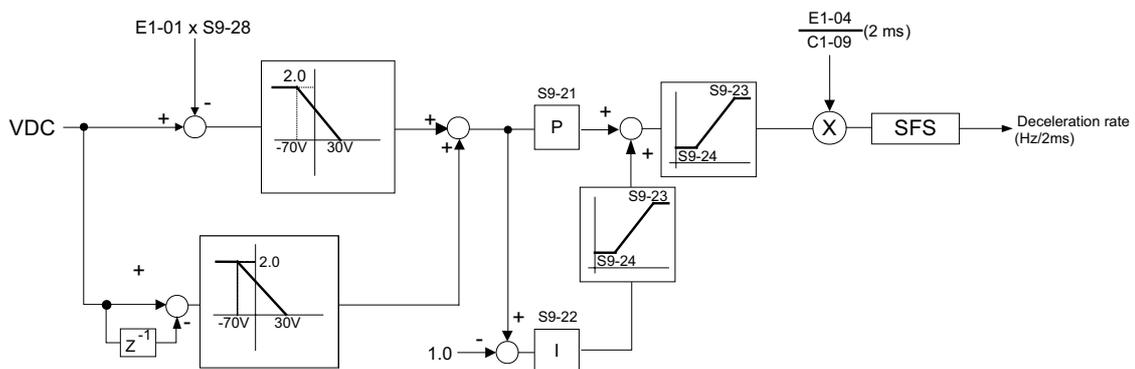

Fig 6.98 KEB Function Block Diagram
After the initial frequency drop the actual KEB function PID control block is activated. For the detailed layout see Fig 6.98. Generally it controls the DC bus voltage by varying the parameter C1-09 (Emergency stop time).
- A derivative (D) part is implemented in the controller but fixed to the values according shown in *Fig 6.98*. Further the output of the PID controller is limited